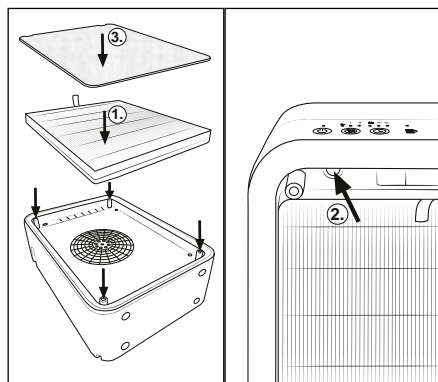

Fig. 7
- ◆ Insert the new EPA filter **7** into the appliance (see Fig. 7).
- ◆ Press and hold the filter reset button **8** for 3 seconds (see Fig. 7). The appliance has now recognised the new filter.
- ◆ Insert the cover **6** into the appliance (see Fig. 7).